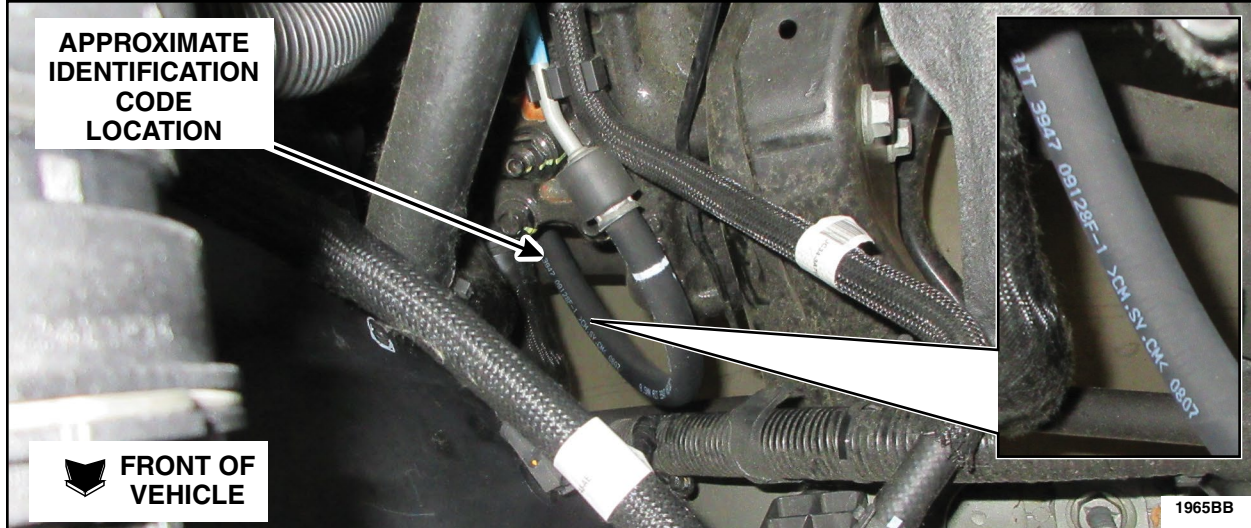

FIGURE 33
2. Inspect the identification code on the rubber section of the power steering pump to steering gear pressure hose. See Figure 33.